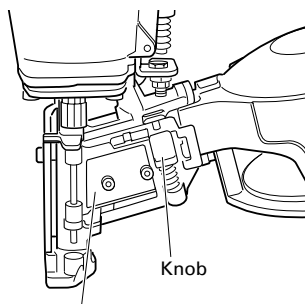

Fig. 13
- (1) Occasionally clean the knob sliding part and then apply the recommended oil. (See Fig. 13)